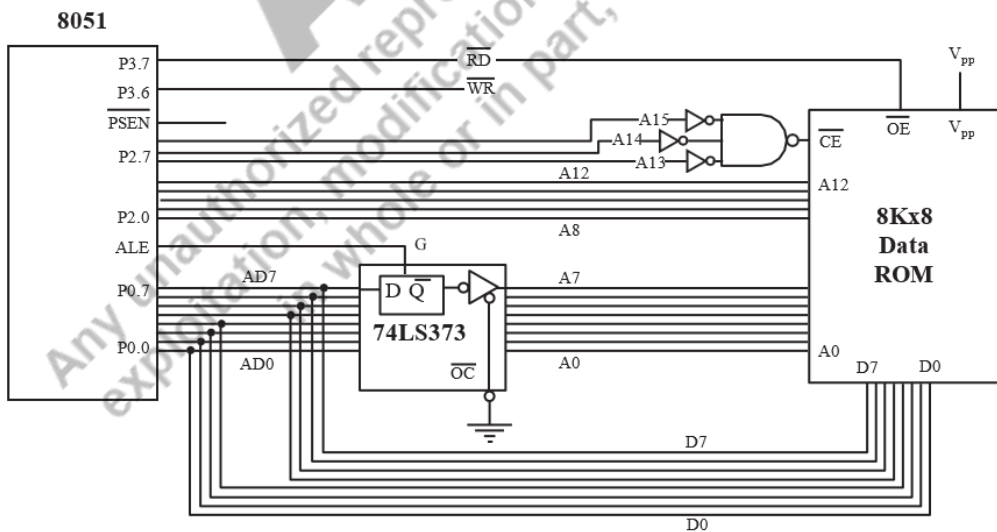

Figure 4.4: 8051 Connection to External Data ROM [Mazidi, 2013]
The Figure 4.4 shows how an 8KB data ROM is interfaced with the 8051 microcontroller. Since it is a ROM containing data, we do not connect the PSEN pin to the OE pin. Instead, we connect the read (RD) pin to the OE pin of the ROM. As usual, the data pins of the 8051 are connected to the data pins of the ROM. Since this is also an 8KB ROM, we need 13 address bits. The remaining bits will be used to generate the chip select signal. Since it is ROM we can only read data from it.